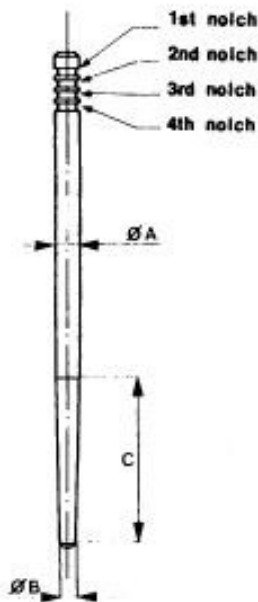

fig.26
**the diameter B of the tip (figure 26)**